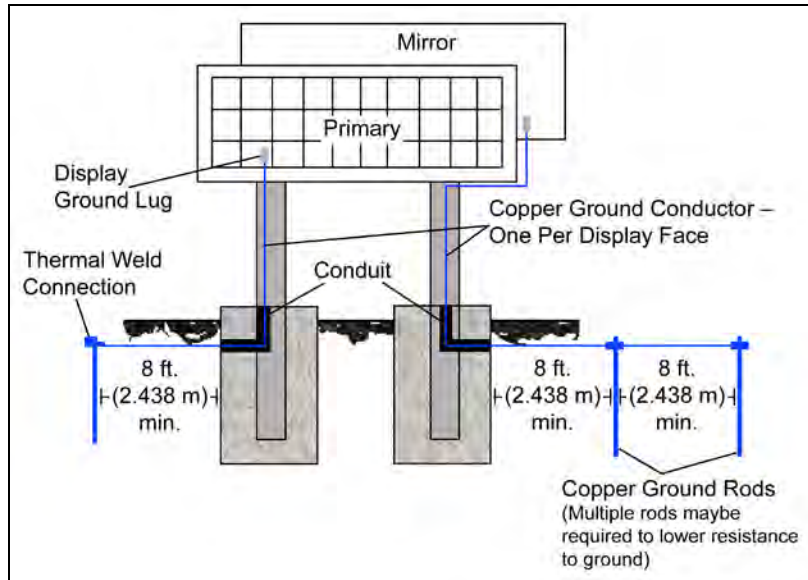

Figure 7: Correct Grounding
The display system must be connected to earth ground as shown in **Figure 7**. Proper grounding protects the equipment from damaging electrical disturbances and lightning. Daktronics requires a resistance to ground of 10 ohms or less. The display must be properly grounded or the warranty will be null and void.
- **Resistance to ground 10 ohms or less:** This is required by Daktronics for proper display performance. If the resistance to ground is higher than 10 ohms, it is necessary to install additional grounding electrodes to reduce resistance. The grounding electrode must be installed within 25 feet (7.6 m) of the display's base and must be connected to the ground lug on the back of the display, as shown in **Figure 7**.